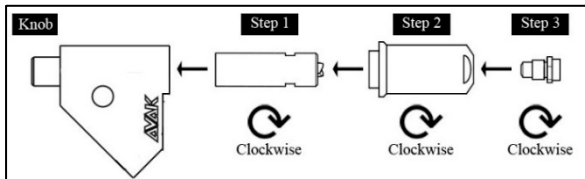

Figure 1: Installing accessories for fastening rivet
2. Install the accessories as illustrated in **Figure 1**. Secure the accessories with correct rotation as indicated below each of the accessories.